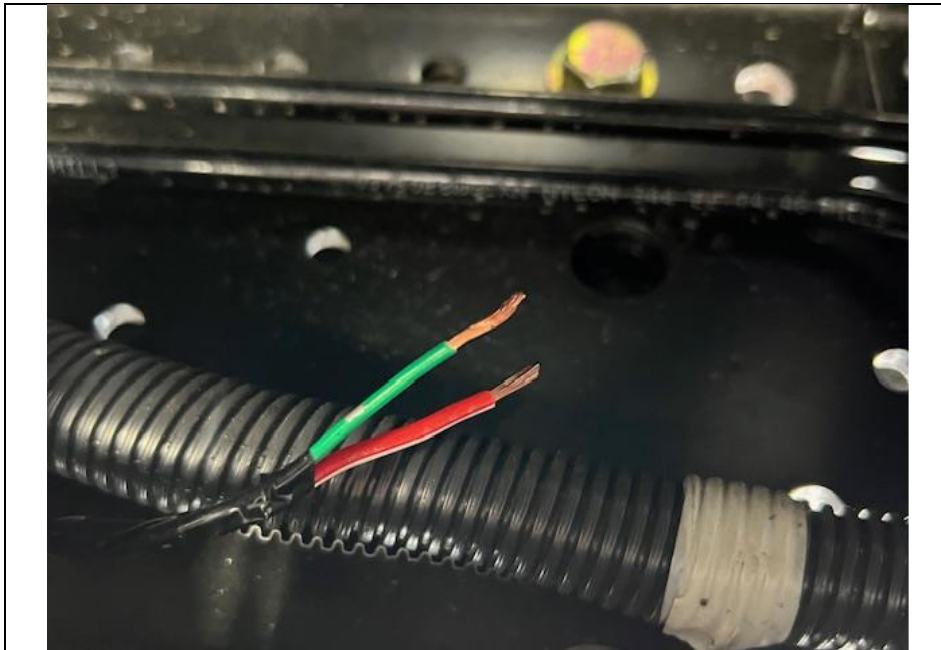

Figure 5
6. Remove the tape from the vehicle wires to expose about 25mm of wire. Strip about 7mm of insulation off the end of each wire. (See Figure 5.) Confirm whether/that there is NO corrosion present. If there IS corrosion, cut the wire back further until you reach non-corroded material.